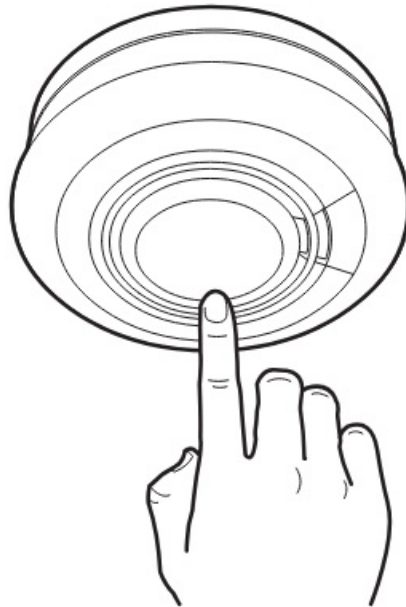

Fig.6
7. Press and hold the Test button for 10 seconds (see Figure 6) on each Alarm to ensure that it sounds. Check that any interconnected Alarms also sound within this period.